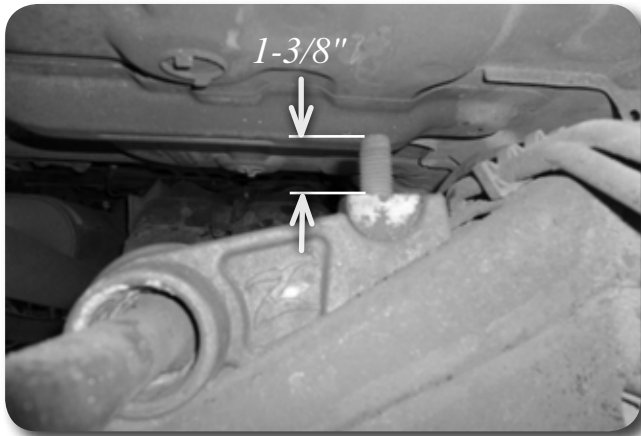

Figure 2
11. Set the overall length of the exposed thread to 1-3/8". This may need to be adjusted if heavy accessories are added to the front of the vehicle, or to level the vehicle side to side. **Figure 2**